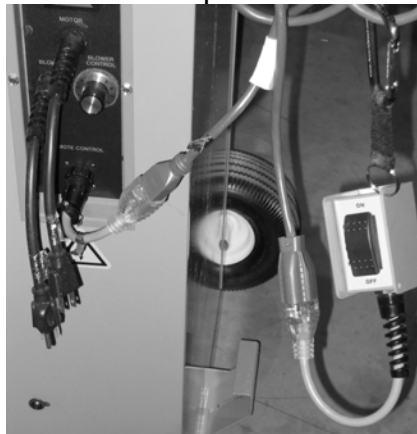

Figure 5
- Attach hardwired remote to Blast remote inlet (Figure 5, orange cord) machine using remote cord. Make sure the remote switch is in the "Off" position.